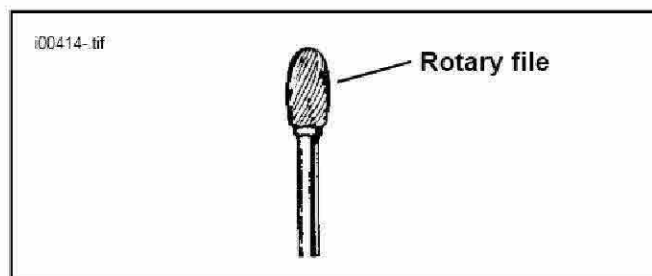
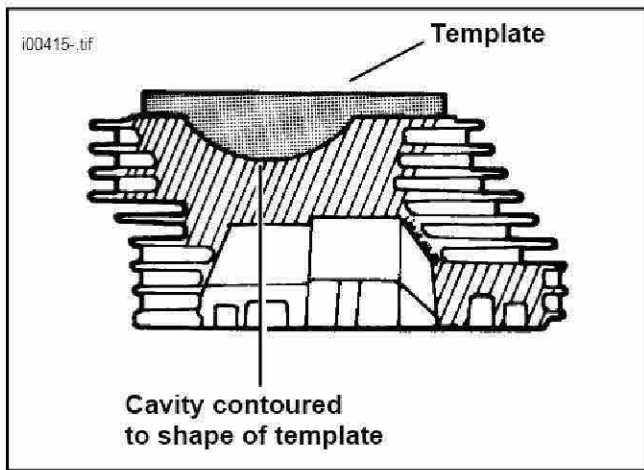

Figure 2. Aluminum Cutting Tool
Figure 3. Shaping Combustion Chamber
7. See Figure 2. Install an oval shaped aluminum cutting, rotary file into the chuck of an air or electric die grinder. See Figure 3. Enlarge the combustion chamber by removing the material within the scribed circle to a depth and contour that matches the perimeter of the template furnished in the kit. Do not grind up to the line. Leave a small amount of material (approximately 1/16") around the inside perimeter of the line. The valves can be removed when checking the cavity with the template. Once the cavity is nearly to shape, finish sand the surface smooth with an 80 or 60 grit sanding cartridge. The cavity must be contoured to a smooth radius without steps or gouges.